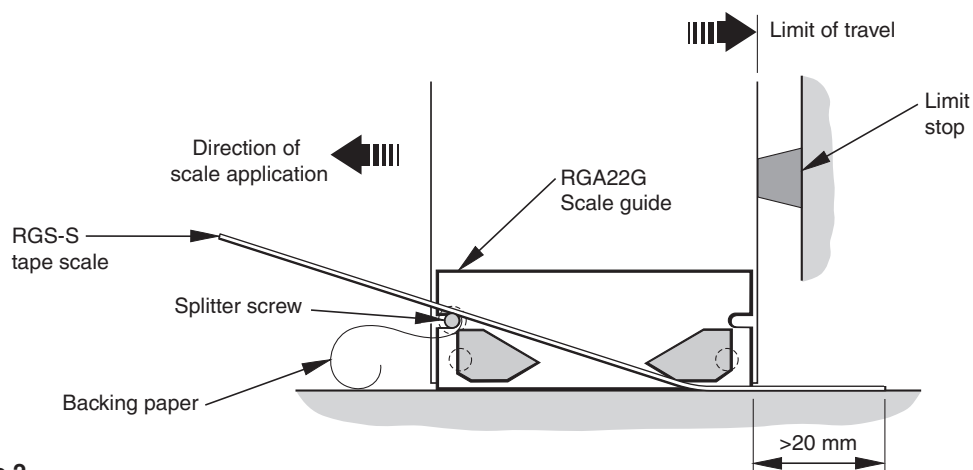

Figure 2
- ▶ Move the guide to the start of axis travel. Note the direction of scale application as shown in Figure 2.
- ▶ Separate the backing paper from the first 40 mm of scale and feed it into the scale guide as shown in Figure 2.
- ▶ Relocate the splitter screw behind the backing paper as shown in Figure 2 and lock in place by turning through 90°.